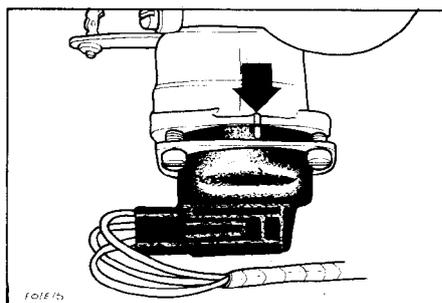

Fig. 7 Choke housing positioning
- b) Line up marks on cover and choke housing and tighten screws (Fig. 7). Reconnect choke wiring.